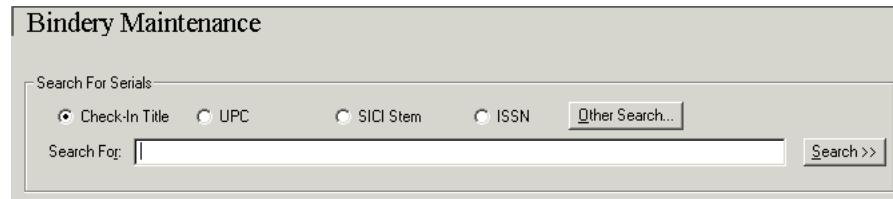

Figure 2-99. Bindery Maintenance search workspace
- The **Bindery Maintenance** button opens the **Bindery Maintenance** search workspace (see Figure 2-99)